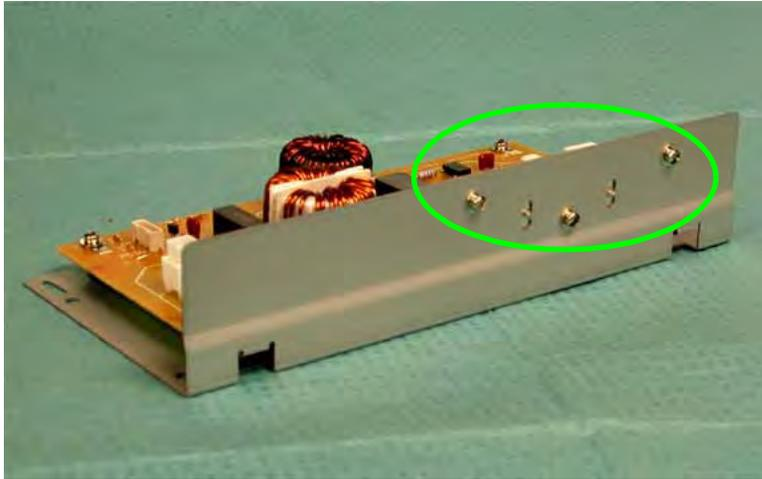

Figure 3 Removing Screws
5. Remove the screws (3) from the bottom of the panel (Figure 3).